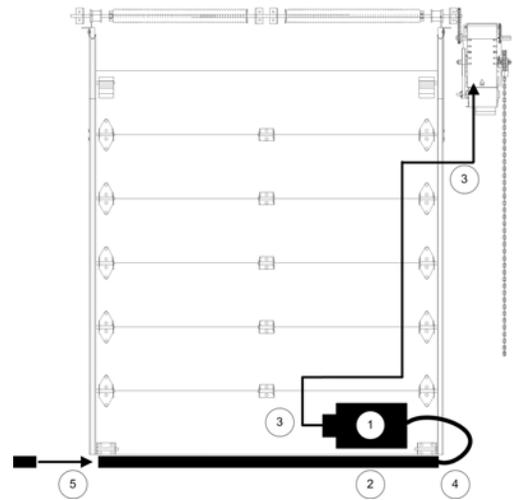

Figure 32 - Reversing Edge
1. Place the air switch in position, refer to Figure 32.
1. Place the junction box in position, refer to Figure 32.